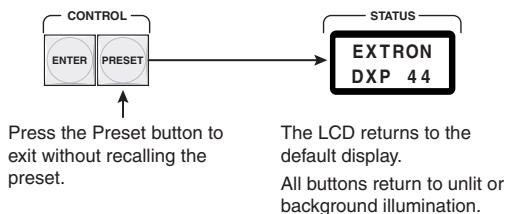

Figure 3-23 — Press Preset to exit
4. To stop viewing presets without recalling a preset, press and release the Preset button (figure 3-23).